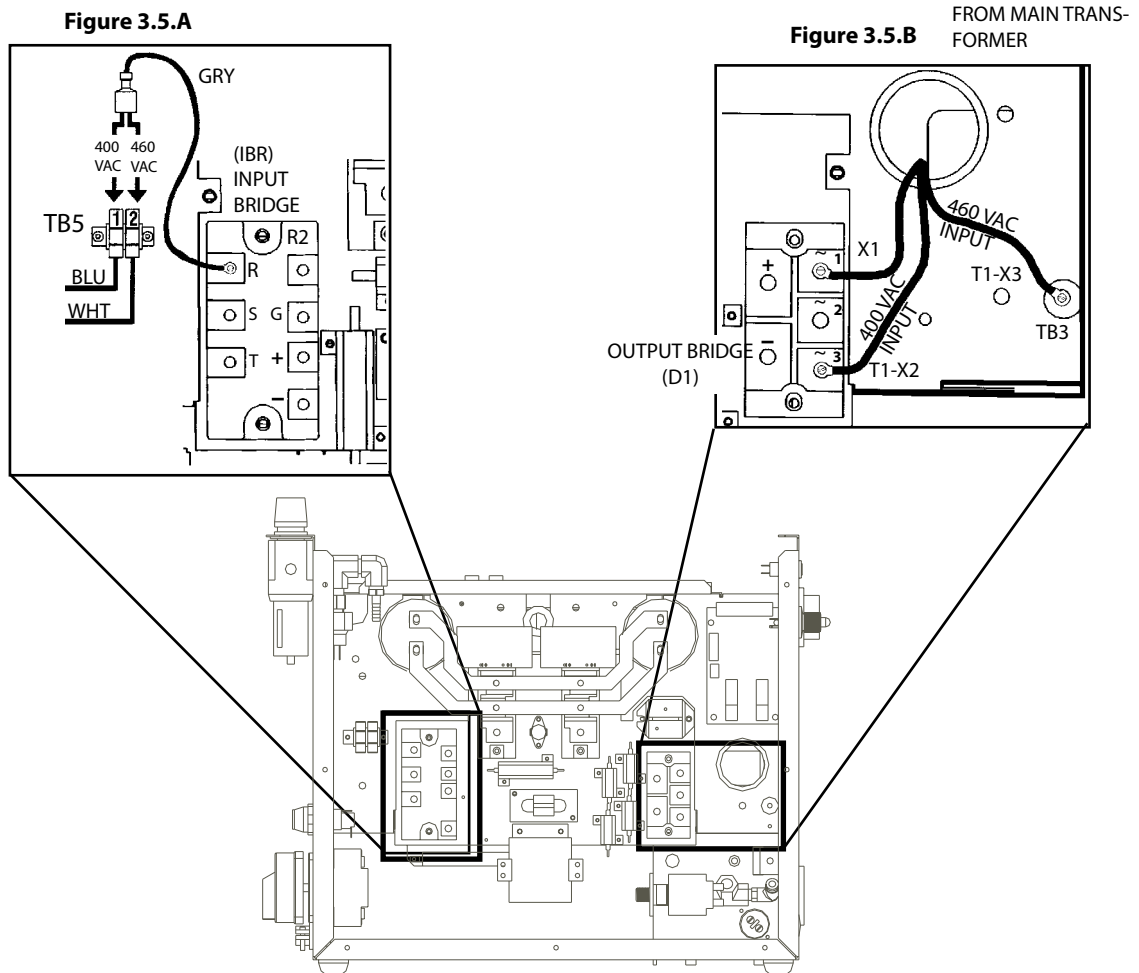

Figure 3-5. Original Factory Setup for 460 Vac Input on Power Source with 400/460 Vac Input Power Capability
If using 400 V input power, the ESP-50 must be reconnected as directed in Section 3.8, Figure 3-5.
2. Locate the Input Bridge (IBR) and TB5 terminal block (see Figure 3.5.A) on the left side towards the rear panel. Disconnect the gray lead from TB5-2 and then connect it to TB5-1.
3. Locate the output bridge (D1) on left side towards the front panel (see Figure 3.5.B). Disconnect and swap leads X2 and X3 from the main transformer. For 400 vac input, X2 is connected to TB3 and X3 is connected to terminal 3 of D1. Make sure the connections are firmly tightened.